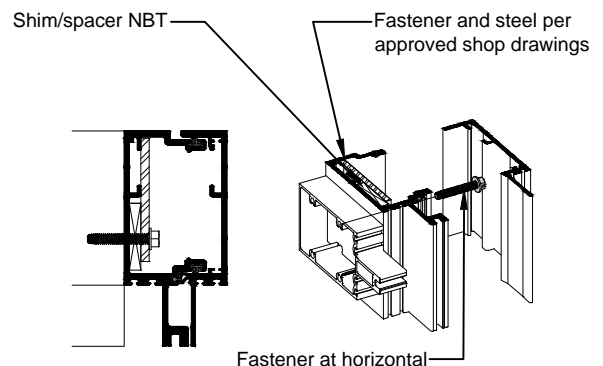

Fig. 38.3
- C. If steel reinforcing is required, install per approved shop drawings. Steel reinforcing can be attached to frame units in different ways. See Fig. 38.2 for examples at 5-1/4" and 7-3/4" back members. See Fig. 38.3 for 3-3/4" back members.